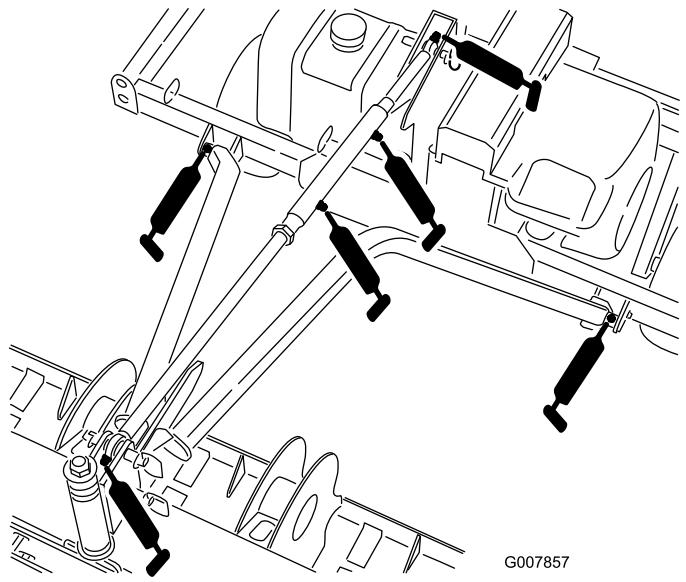

Figure 40
- Tow frame, Qty 2 (Figure 40)